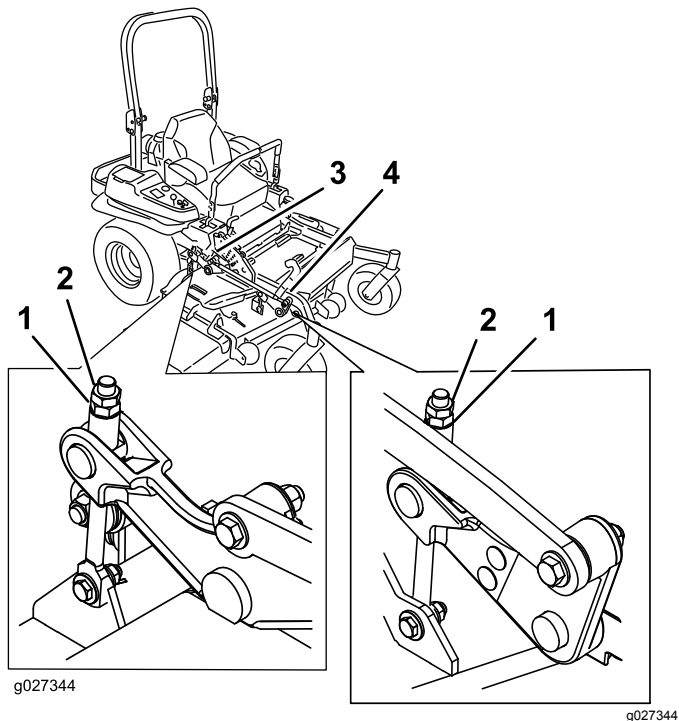

Figure 95
10. Fine-tune the adjustment nut on the front deck-lift assembly by turning it (Figure 95).